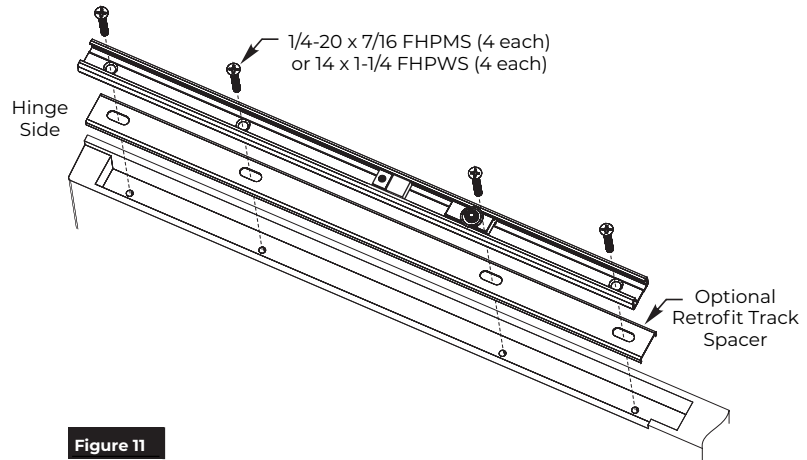

Figure 11
2. Install track and, if necessary, optional retrofit spacer (replacement application only, consult factory) using either four (4) provided 1/4-20 x 7/16" FHPMS screws for metal door or four (4) provided #14 x 1-1/4" FHPWS screws for wood door (Figure 11).